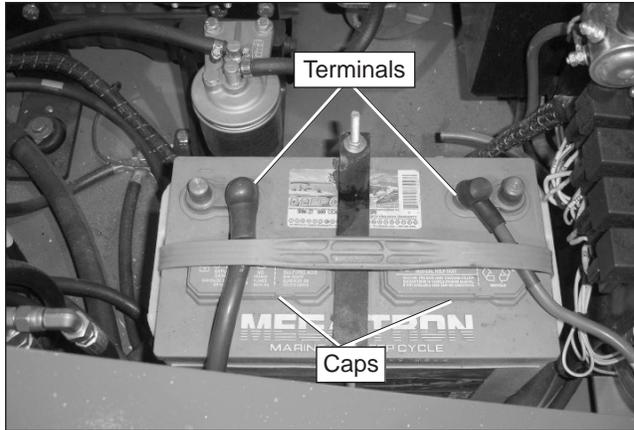

Figure 7.5 – Battery
Electrical power is supplied from a 600 CCA, 12 volt battery. The battery is under the engine cover on the left side of the engine (refer to Figure 7.5). The battery supplies 12 volt DC electrical power to operate the aerial platform electrical and electrohydraulic components, including the emergency power system.
1. Remove the caps from the battery (refer to Figure 7.5).
1. Check the top of the battery, the terminals, and cable ends. They should be clean and free of corrosion (refer to Figure 7.5).